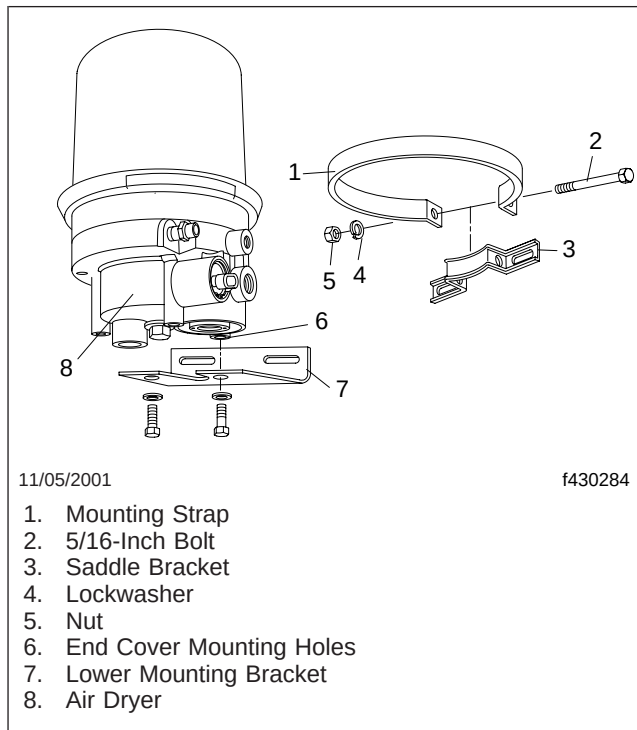

Fig. 1, Bendix AD-IP Air Dryer
5. Remove the four bolts that secure both the upper and lower mounting brackets to the vehicle, and remove the air dryer from the vehicle. See Fig. 1.
1. Install the lower mounting bracket on the end cover and secure it using the two 3/8-inch capscrews and washers. Tighten the capscrews 25 to 30 lbf·ft (34 to 41 N·m). See Fig. 1.